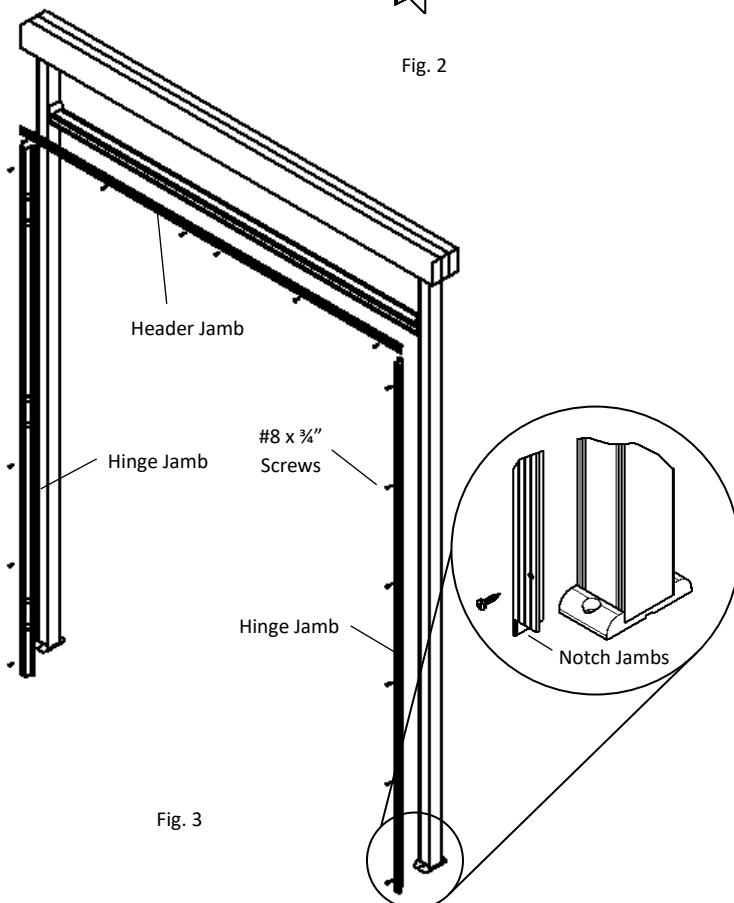

Fig. 3
2. Attach header jamb to door header with #8 x 3/4" self-tapping screws. (Fig. 3) Keep header jamb tight against header.
3. Attach both hinge jambs to posts with #8 x 3/4" self-tapping screws. (Fig. 3) **NOTE** Door jamb sides will need to be notched on bottom of jambs whenever post mounts are used. (Fig. 3) Do not attach jambs with screws through hinge holes at this point.